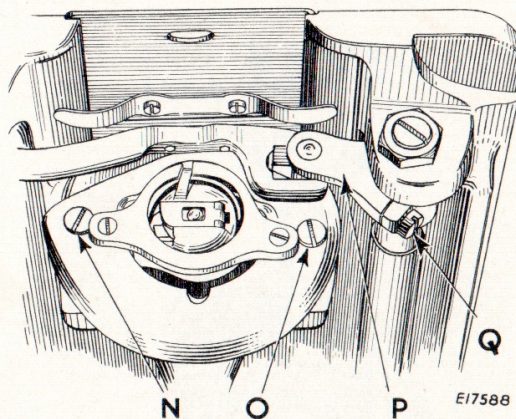

Fig. 17. Adjusting the Feed Dog
The feed lifting rock shaft crank (P, Fig. 17) should be set so that when it raises the feed bar to its highest point, slightly less than the full depth of the teeth of the feed dog project through the slots in the throat plate. To raise or lower the feed dog, loosen the clamping screw (Q, Fig. 17) and move the feed lifting rock shaft (P) until the feed dog is set at the required height, then securely tighten the clamping screw (Q).